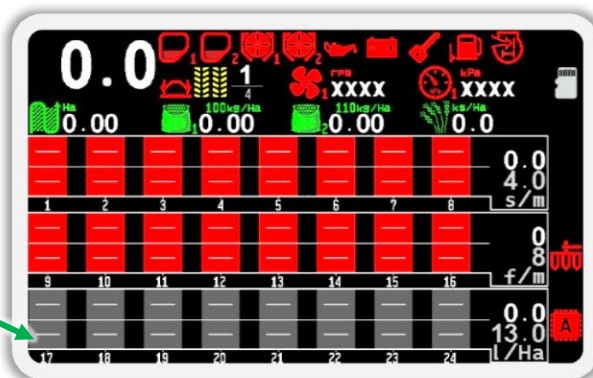

Figure 116
- Make sure the concentrator settings have changed to the correct settings. To do this, physically disconnect and connect the concentrator to the communication harness. After that, return to the main screen (see Figure 116). To do this, first exit the “Service” menu, and then close the main screen menu (use the  “Back” button).